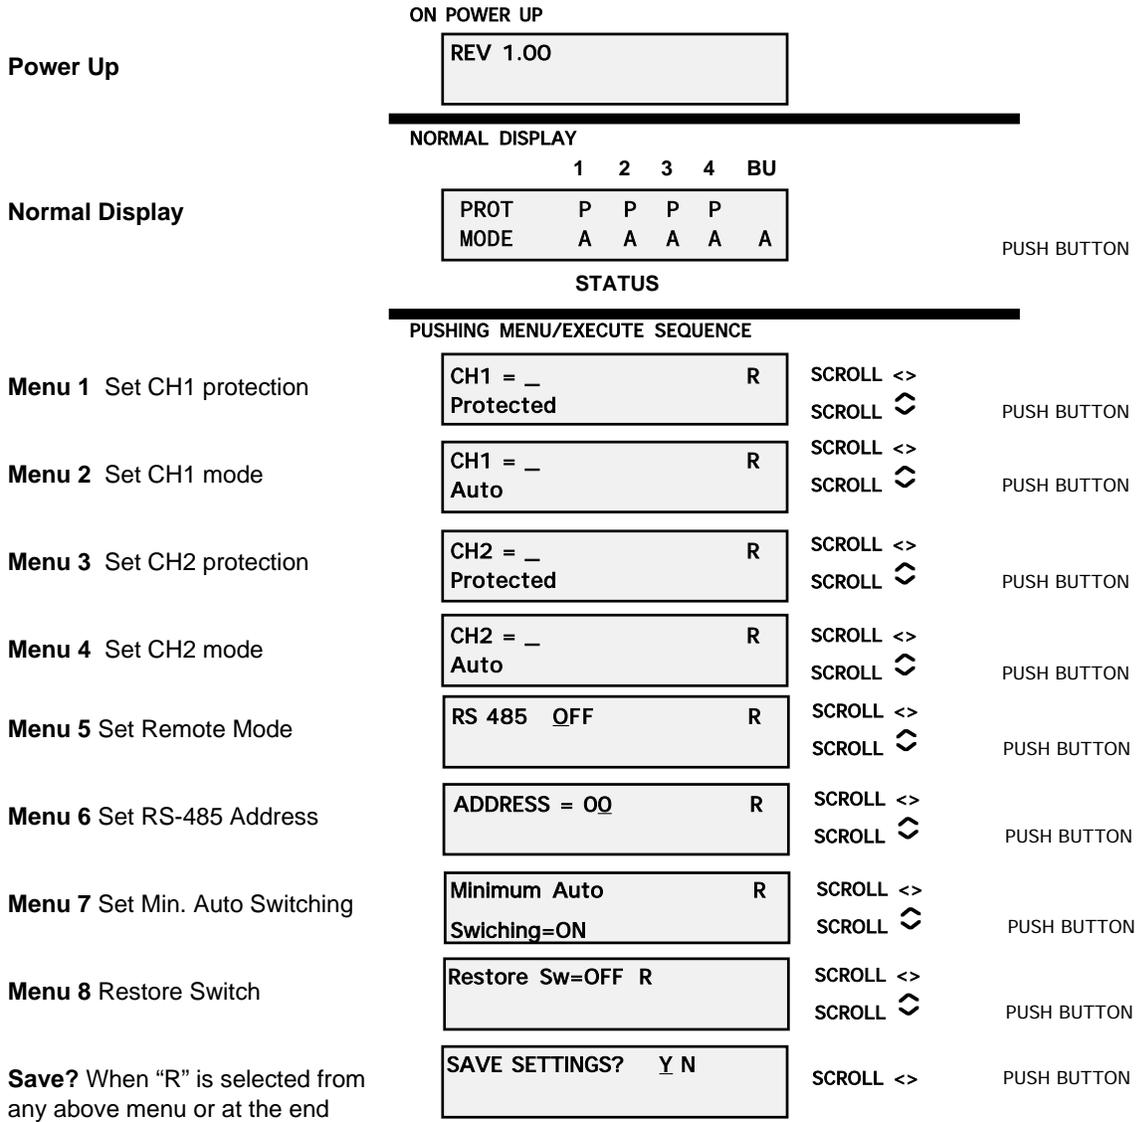

FIGURE 2.4 Menu Display and Sequences
2.5.1 Functions - This section describes operation of the front panel controls. There are three operator switches, the LCD display and alarm indicator LEDs. All functions for the equipment are controlled by these components. The functions are (see Figure 2.4):